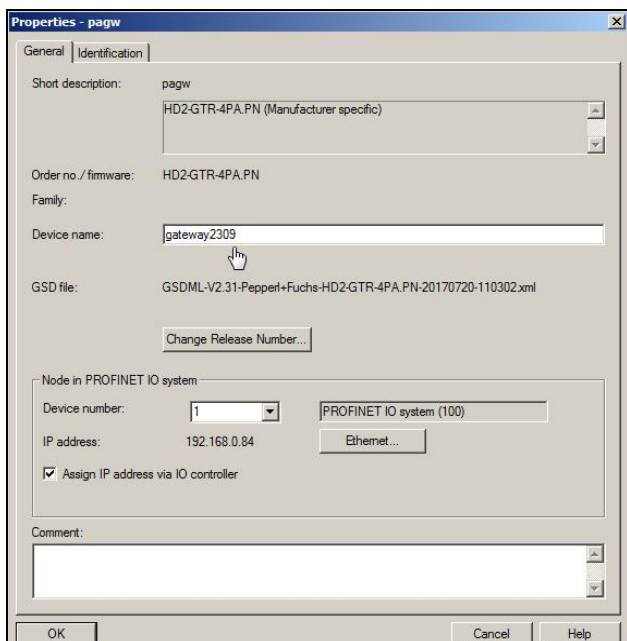
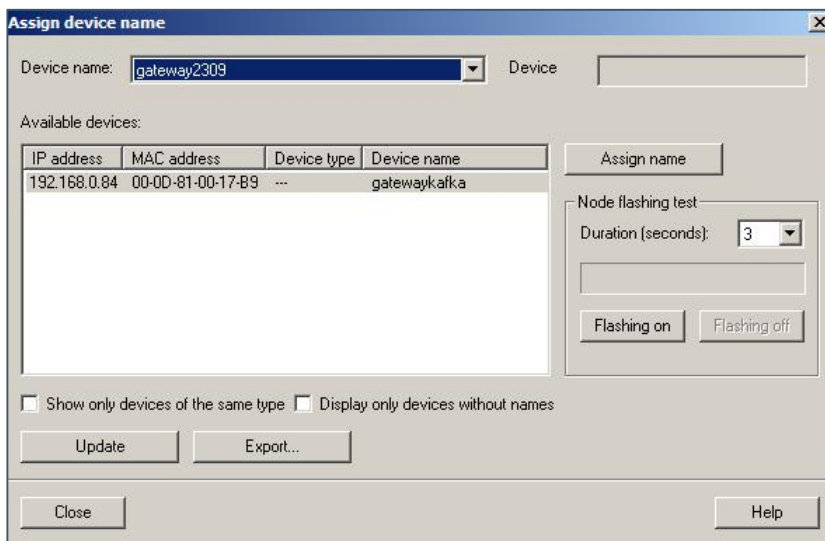

Figure 28: Keying in the PROFINET gateway device name
Figure 35: Assign device name
- 2) Double-click the icon of the inserted gateway and key in the **Device name** for the PROFINET gateway, then click **OK** (see: Figure 28: Keying in the PROFINET gateway device name).
- 2) Make sure that the **Device name** is the same as set previously (see: Figure 28: Keying in the PROFINET gateway device name), then click **Assign name** (see: Figure 35: Assign device name).